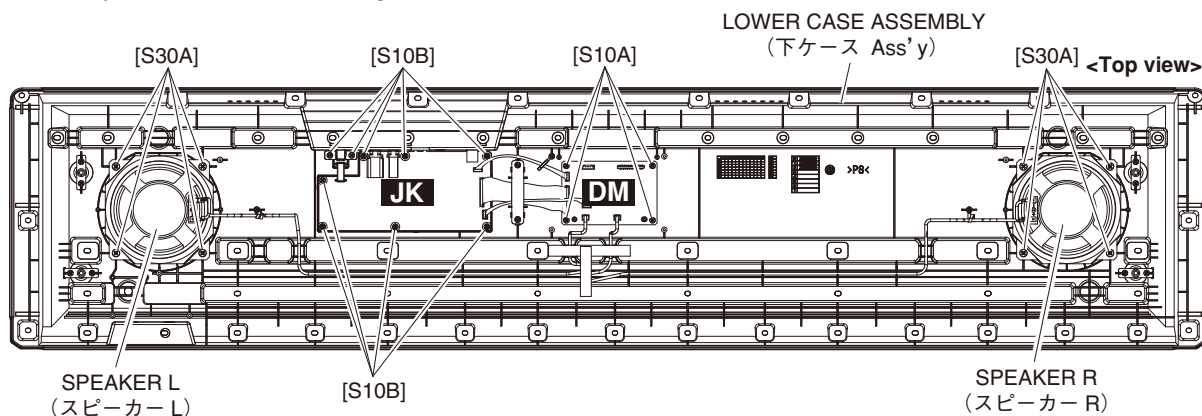

Fig. B-3 (図 B-3)
- B-2-2. Remove the four (4) screws marked [S10A]. The DM circuit board can then be removed. (Fig. B-3)
(図 B-3)
(Fig. B-3)
- B-4-2. Remove the four (4) screws marked [S30A]. The speaker can then be removed. (Fig. B-3)
- B-3-2. [S10B] のネジ 9 本を外し、JK シート (DC-IN を含む) を外します。(図 B-3)